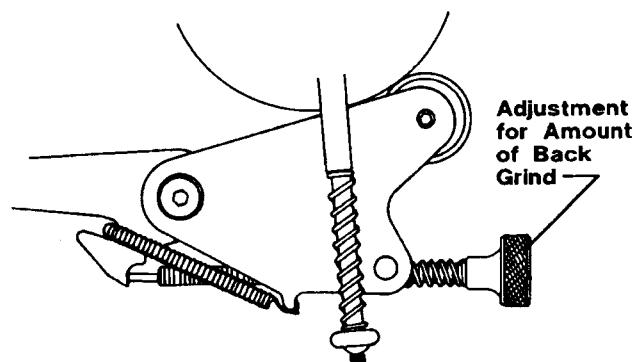

FIG 2-46
3. The back grind adjustment determines how quickly the grinding wheel will be lifted from the gullet grind (**See Figure 2-46**). Turning the adjustment knob clockwise (CW) will lift the grinder head earlier in the sequence, which means you will be grinding less from the back of the tooth. Turning the knob counter-clockwise (CCW) will delay the lifting action of the grinding wheel, allowing it to contact the back of the teeth.
With the sharpener still "OFF", push the "START" button and increase the control setting. Check the contact of the grinding wheel against the back of the tooth to right of the one being sharpened. If no back grind is desired, adjust the knob shown in **Figure 2-46** clockwise until the grinding wheel clears the back of the tooth. If back grind is desired, adjust the knob counter-clockwise to the desired backgrind.